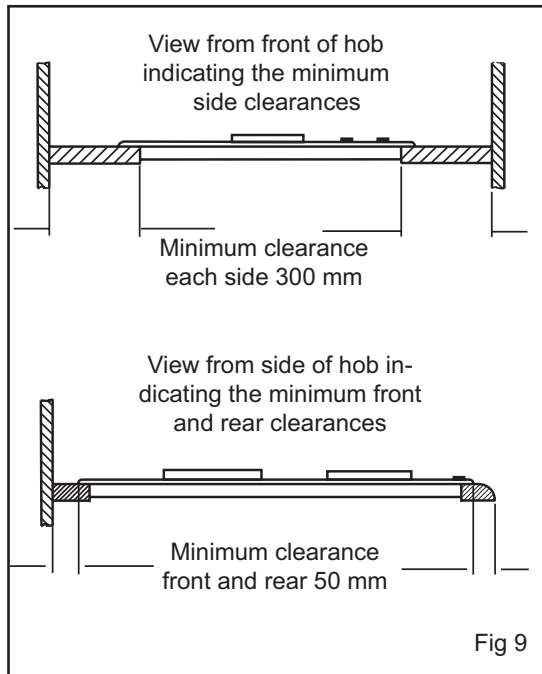

Fig 9
- Fig 9 shows the minimum clearances for the sides, front and rear of the appliance. It is important for the safe operation of the appliance that these minimum clearances are observed.
- It is essential that the cut out in the mounting surface is shown in Fig 5 and that a minimum clearance of 300mm on the left and right hand sides on the hob be established. The 300mm clearance requirement also applies to the walls adjacent to the appliance (see fig 9). See also the cardboard template that is supplied with the appliance to aid in placing the cut out in the correct position in the mounting surface.